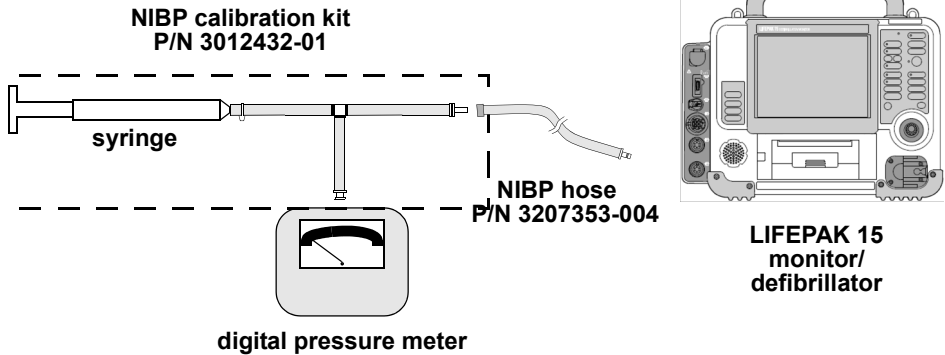

Figure 5.24—NIBP calibration setup
2. Set up the NIBP calibration kit as shown in Figure 5.24.